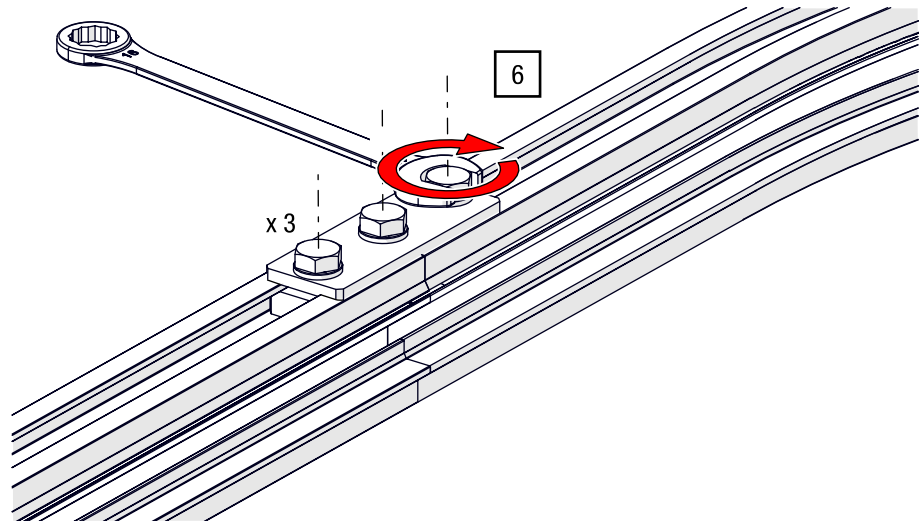

Fig. 48: Track splice – Tighten hexagon screws
6. Tighten the four M10 hexagon screws with a hexagon open-ended spanner AF 17 from the inside outward (see Fig. 48).